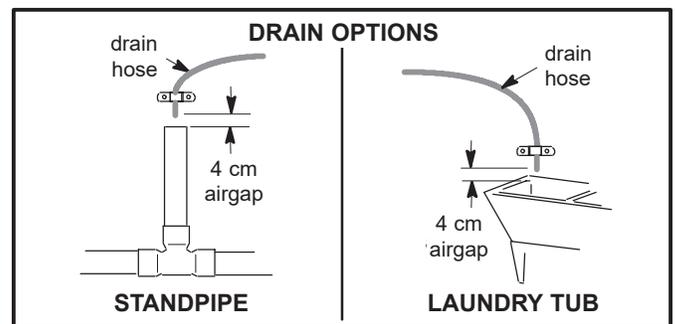

FIG. 4
- A drain is needed for recharge discharge water. A floor drain is preferred, close to the EcoWater Systems conditioner/refiner. A laundry tub, standpipe, etc., are other options (See Figure 4).